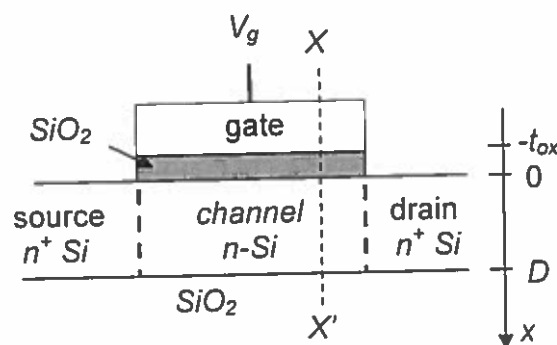

Figure 3.1
3. Figure 3.1 shows an n -channel, depletion mode silicon-on-insulator MOSFET, where the channel is formed by a Si layer of thickness D , lying on a SiO_2 substrate. The Si channel doping concentration is N_D . A top SiO_2 layer of thickness t_{ox} forms the gate oxide.